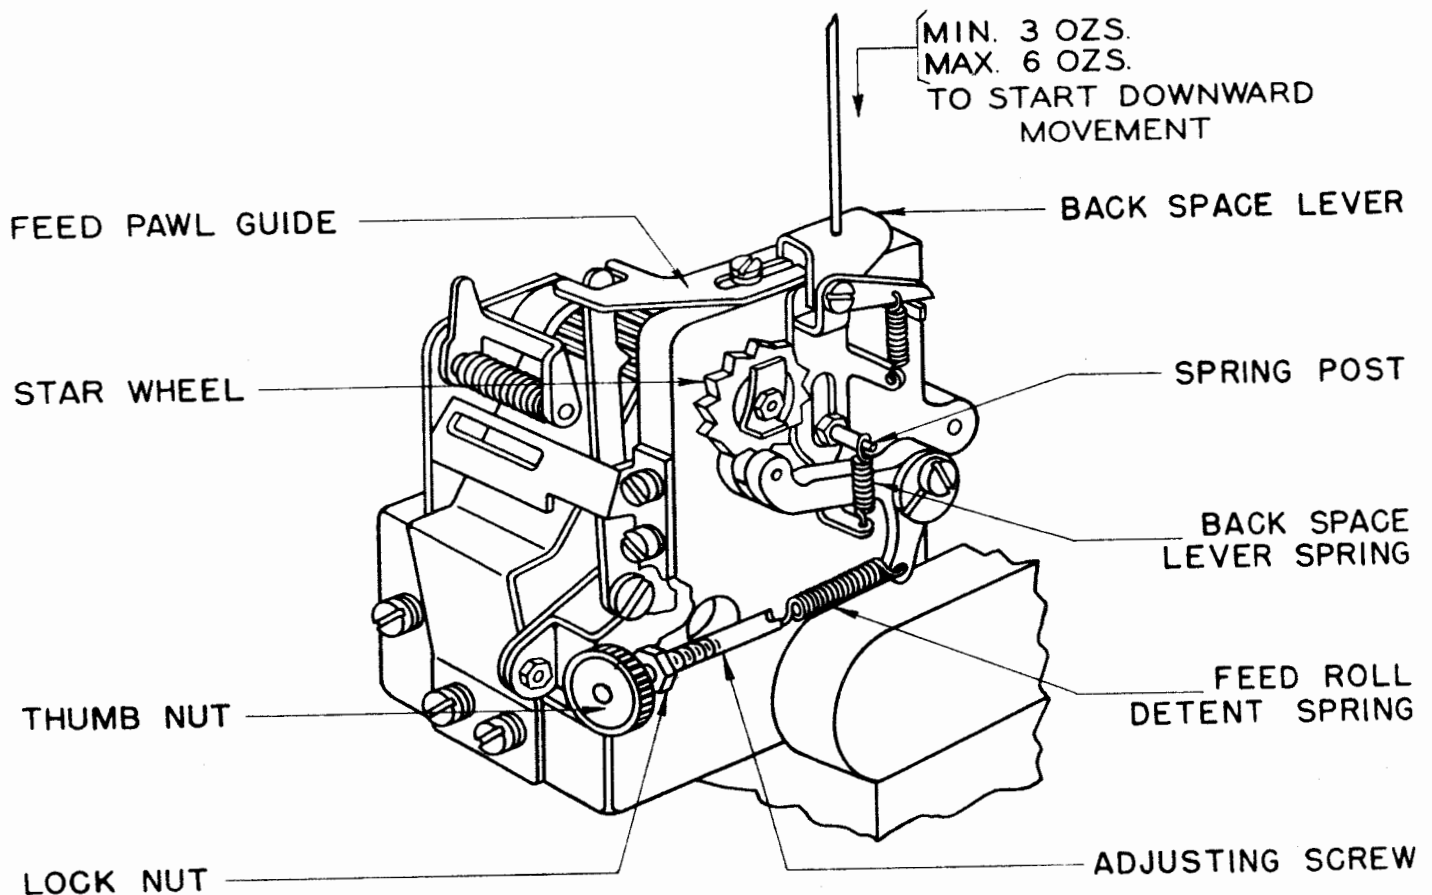

Figure 43
3.47 Backspace-lever Spring should require a tension of minimum 3 ounces, maximum 6 ounces to start the backspace lever moving downward. See Figure 43.
4.01 Counter-control-contact Operating Cam Levers should be just completely displaced when the associated keylevers are depressed to the neutral position (half way down). See Figure 43 for identification of parts.